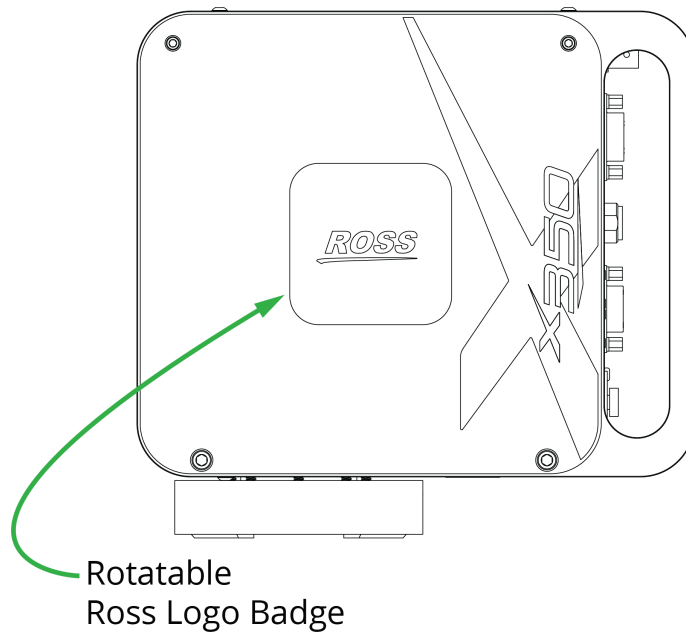

Figure 4.14 — X350 Head, showing Rotatable Ross Logo Badge
1. Rotate the Ross logo badge on the side of the head (Figure 4.14).